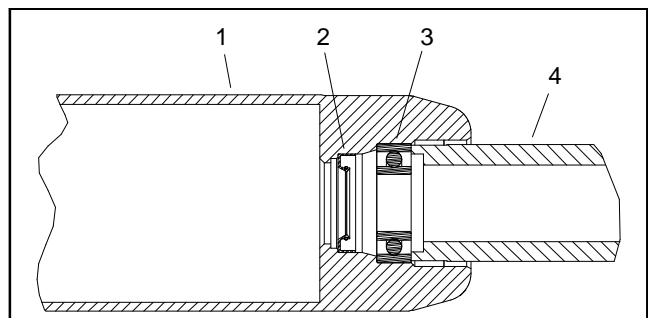

Figure 36
A. Position a new bearing into one end of roller tube. Use bearing/outer seal tool (see Special Tools) with a soft face hammer to fully seat bearing against roller shoulder (Fig. 36). After bearing installation, make sure that it rotates freely with no binding.